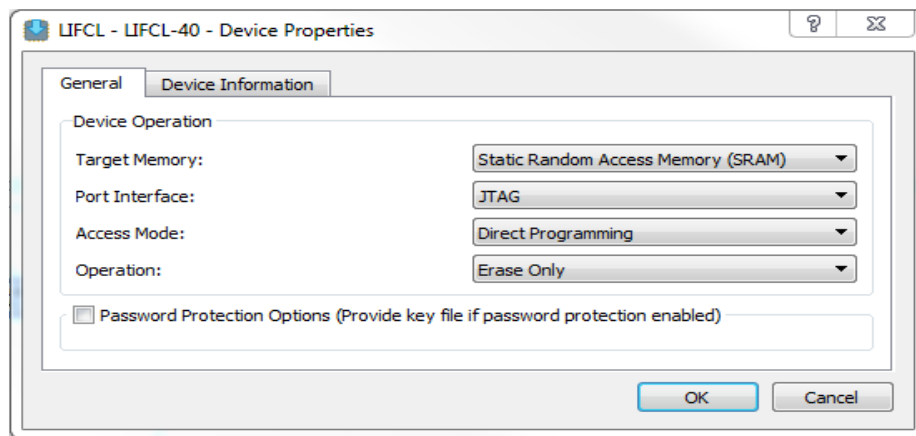

Figure 4.3. Radiant Programmer – Device Operation
4. Select **JTAG** for **Port Interface**, **Direct Programming** for **Access Mode**, and **Erase Only** for **Operation** as shown in Figure 4.3.